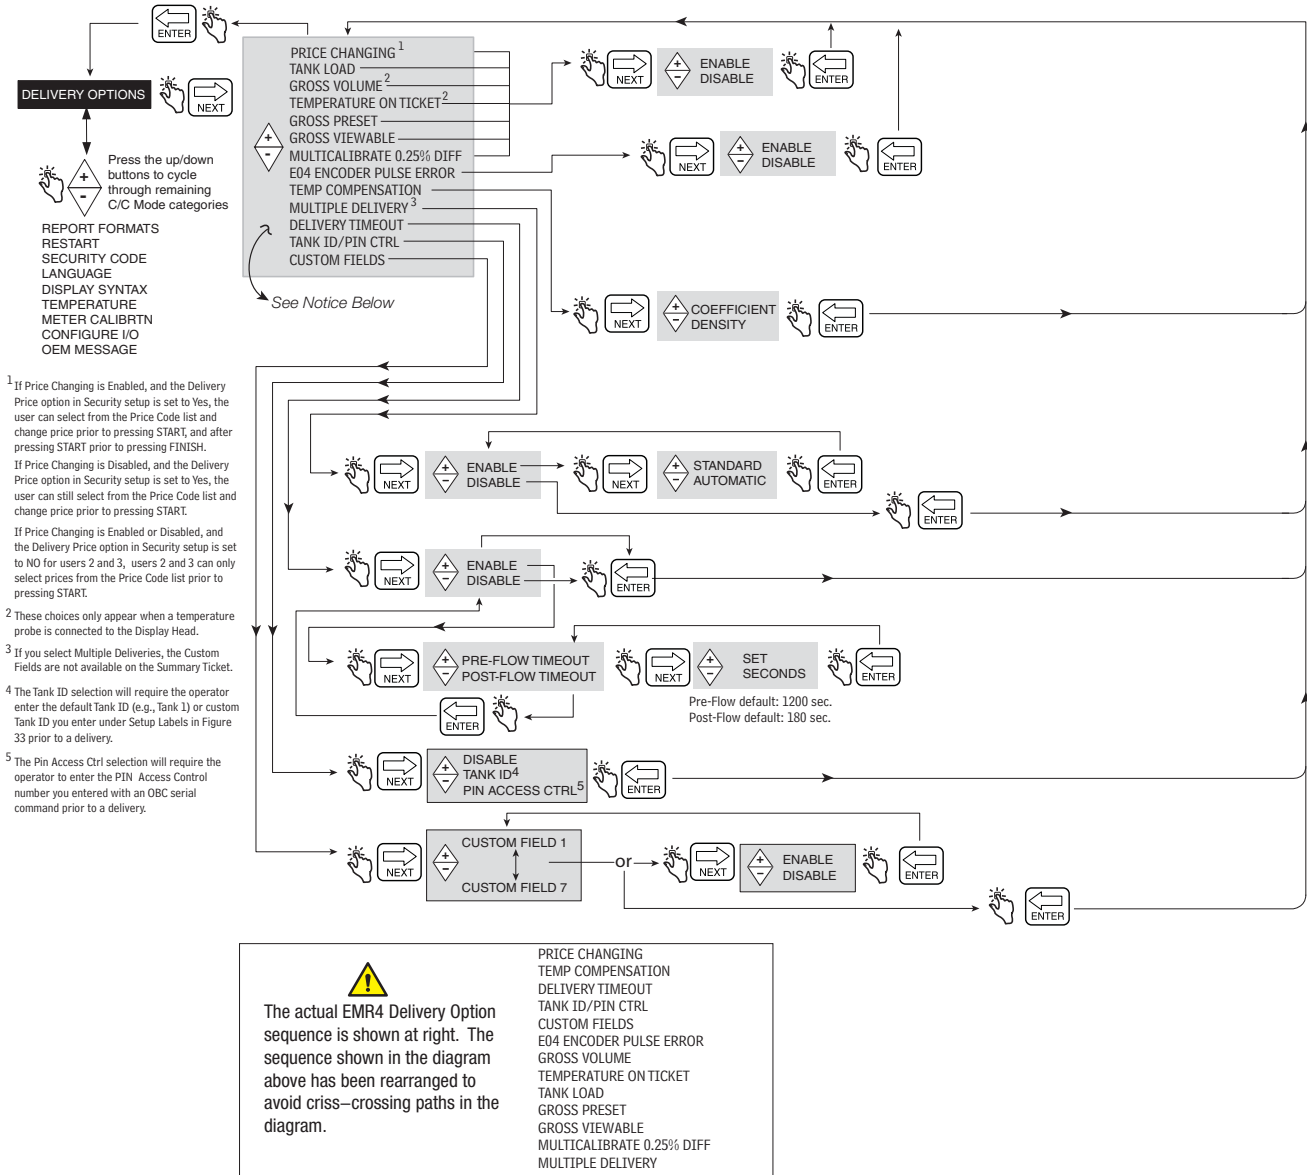

Figure 47. Delivery Options
3. In order to change the density for a given product, the EMR4 has to be set to the density mode and temperature compensation must be enabled as described in Figure 47, Delivery Options.
Figure 47 illustrates Delivery Options setup in C&C Mode. This option lets you enable or disable price changing within the Delivery State as per your regulatory requirements. In this setup you also select coefficient (of expansion) or density as the temperature compensation method for deliveries, enable delivery timeout, enable Tank ID, enable Custom fields, enable Tank Load and enable E04 encoder error (Gross volume and Temperature on Ticket fields also visible when temperature probe connected to EMR Head). Also you can enable / disable Gross Preset, Gross Viewable, Multicalibrate 0.25% Diff and Multiple Delivery.
These timeouts can be enabled or disabled by the Delivery Timeout feature (see Figure 47).